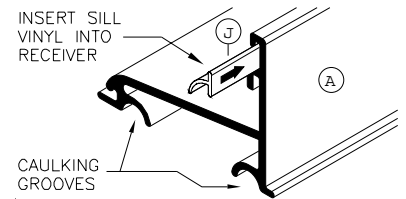

figure 2
2. Slide Vinyl Seal (J) into the Sill's receiver as shown in figure 2. Run the Vinyl the full length of the Sill, then trim any excess.
4. Turn the Sill over and apply a bead of caulking the full length of the caulking grooves, see figure 2. With high lip toward exterior of enclosure, position Sill at center of shower curb. Temporarily tape Sill to shower curb to prevent movement.